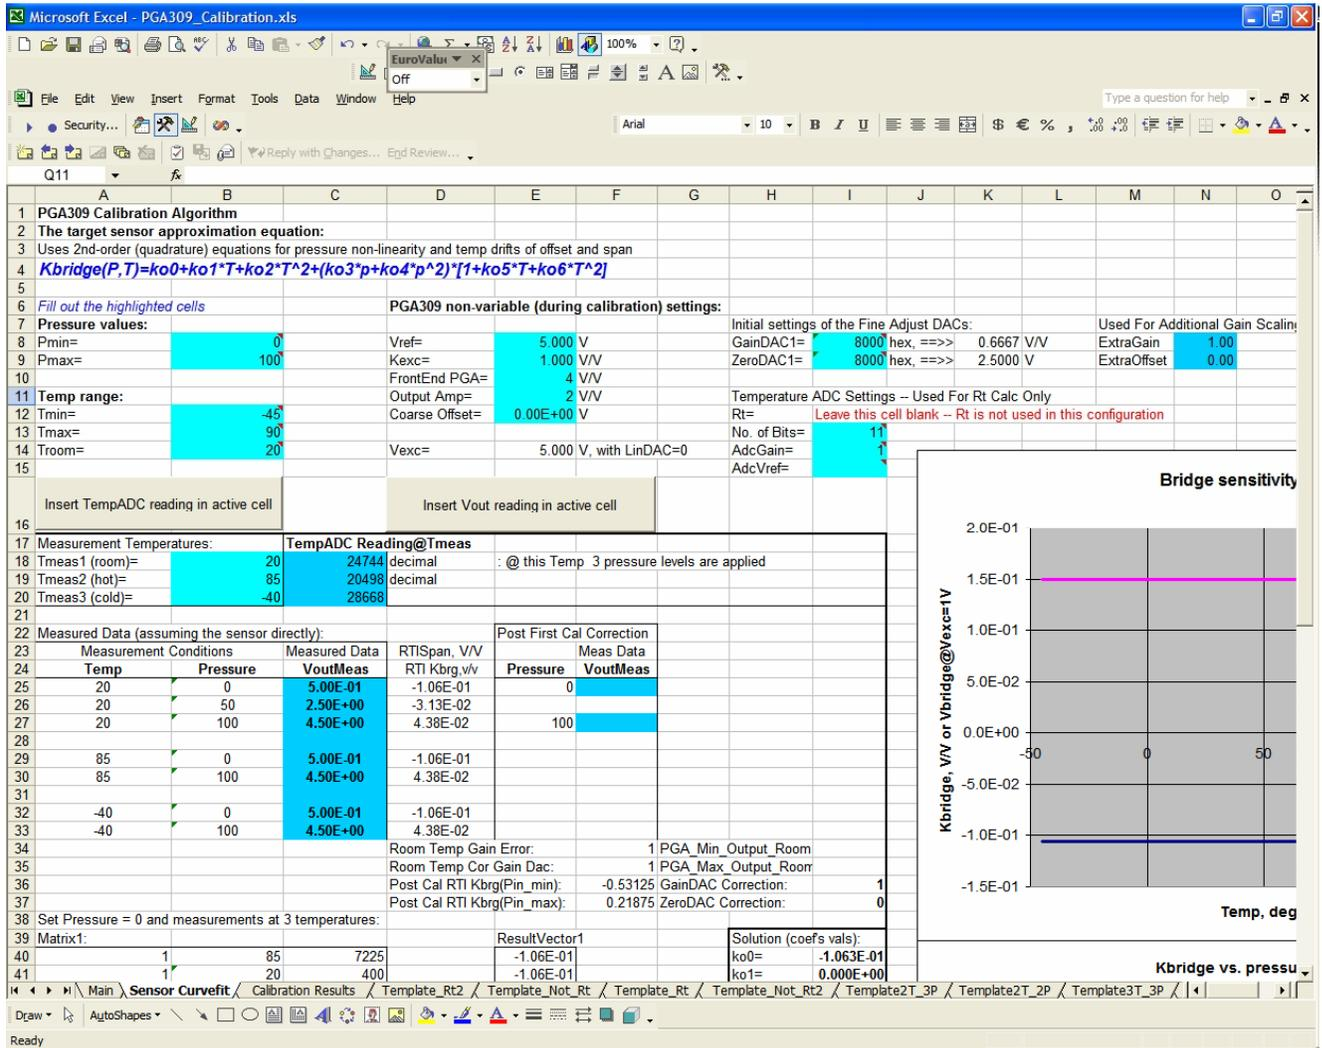

Figure 35: Sensor Curvefit Worksheet
2) The “Sensor Curvefit” Worksheet (Figure 35) is the place where all results of the calibration measurements are entered and the sensor compensation coefficients are calculated. The fields colored light blue contain pre-selected values, such as PGA309 Gain and Offset settings, the temperatures where the measurements are made and sensor pre-characterized parameters (such as span drift non-linearity). The dark-blue fields are the ones where the measured values are entered at each stage of the calibration. The framed area is filled out when “Prepare Calibration Sheet” is clicked on the previous page. It contains the cells with calculations specific to the chosen calibration algorithm. The two control buttons paste in the current worksheet cell either the last Vout reading or the last Temp ADC value from the Board Control Program. This saves the manual typing of the numbers. However, all the data can be also entered manually if the measurements are made with other equipment than the PGA309EVM PC Interface Board.